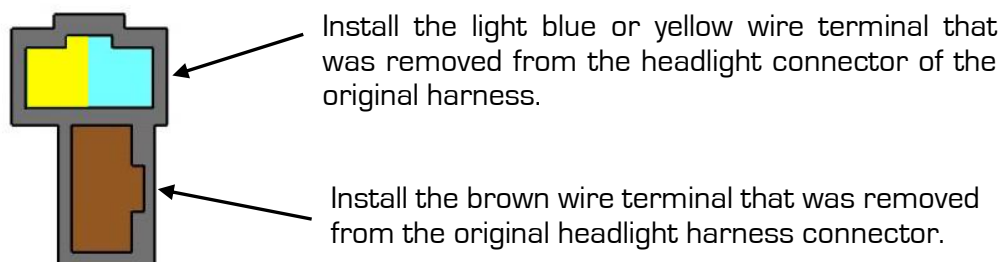

Figure 31 - End View (Harness Side)
33. Install the wire terminals which were just removed from the original headlight harness connector into the included black two-terminal female Packard connector cavities (Figure 31).